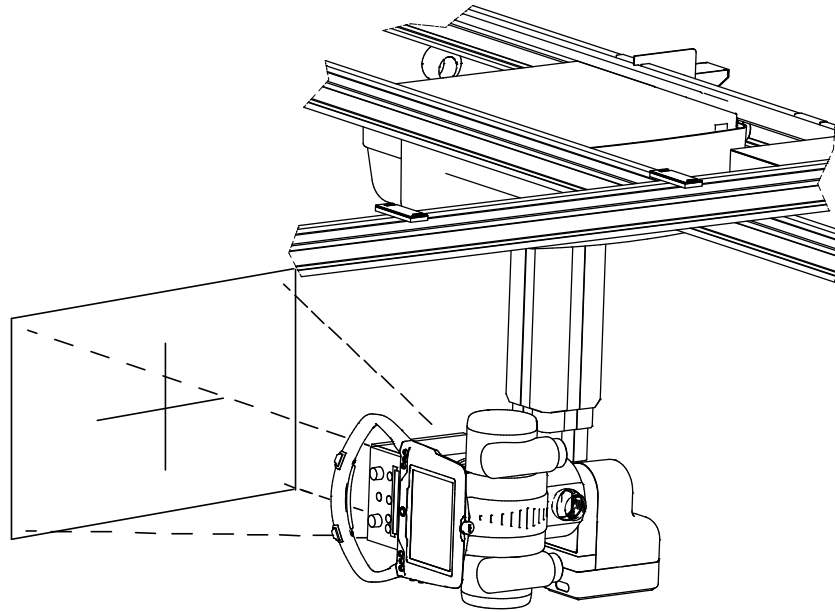

Fig. 4-58 OTC vertical alignment
1. Turn on the collimator light and mark a cross in the center of the collimator light field on a piece of paper placed on the wall according to Fig. 4-58 *OTC vertical alignment* below.